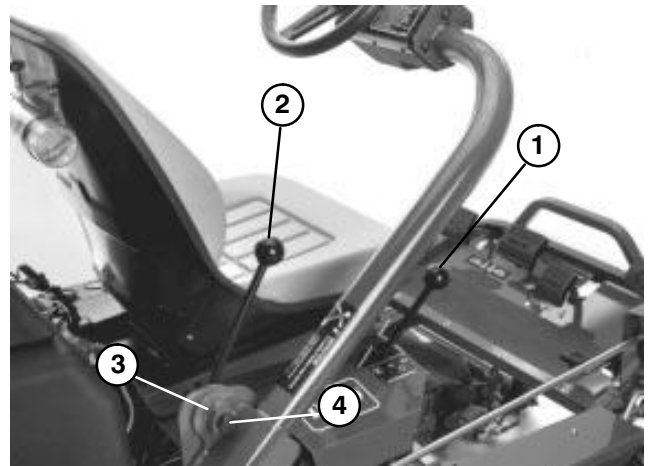

Figure 18
SHIFT SELECTOR (Fig.18) – Located on the top of the right hand panel. Provides two (2) traction selections, plus a “NEUTRAL” position. It is permissible to shift from one selection to another while the Greensmaster 3100 is in motion. No damage will result.
STEERING ARM LOCKING LEVER (Fig.18) – Rotate lever rearward to loosen adjustment, raise or lower steering arm for operator comfort, then, forward to tighten adjustment.